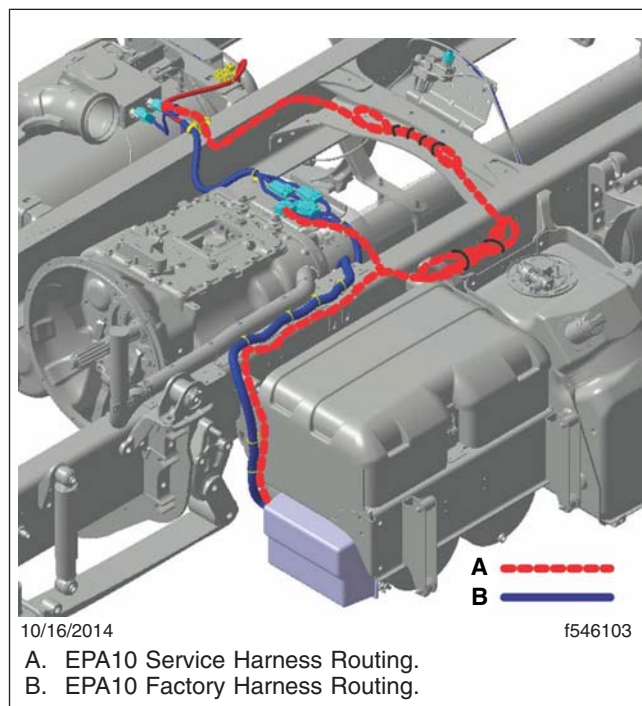
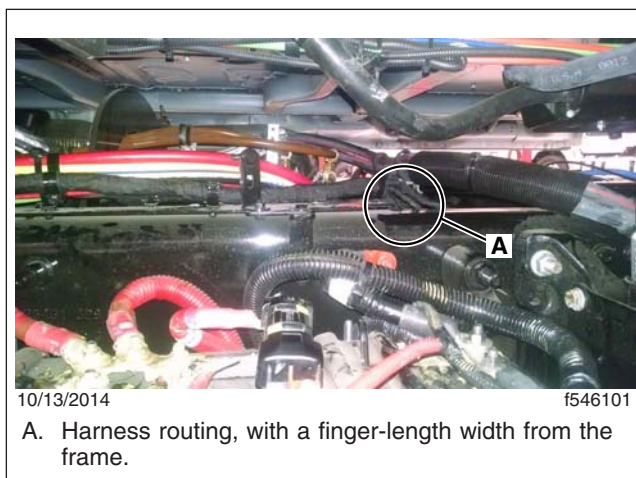
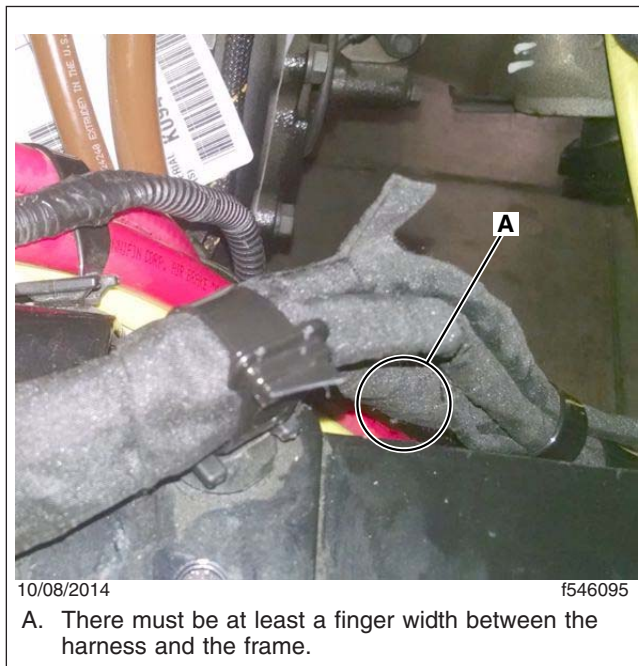

Fig. 1, Aftertreatment Harness Routing
Fig. 2, Aftertreatment Harness Routed Along the Frame
Fig. 3, Aftertreatment Harness Installed Away from the Frame
5. Route the new aftertreatment harness. See Fig. 1. Make sure that there is no contact with sharp edges. See Fig. 2 and Fig. 3.